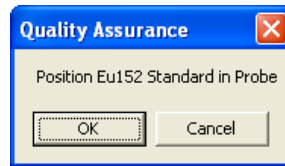

Figure 5-7
10. If you are continuing with Eu152, the screen appears as shown in Figure 5-7. Place the Eu152 source in the selected detector in the same position as Cs137 and click the  button.